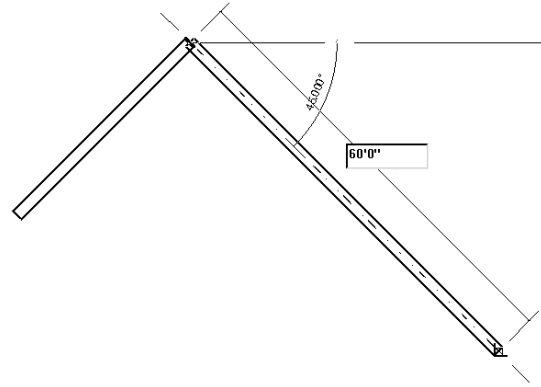

Figure 2-36 Sketching the second inclined wall segment
6. The **Chain** option is enabled and so the second wall segment starts from the last specified point. Move the cursor downward toward the right, such that the perpendicular object snap symbol appears, Enter **60'0"** as the value, see Figure 2-36. The wall perpendicular to the first inclined wall is created.